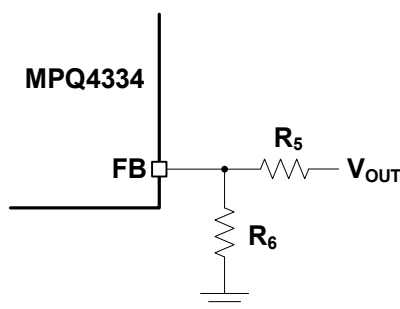

Figure 1: Feedback Divider Network with Adjustable Output
7. To use the enable (EN) function, apply a digital input to the EN pin. Pull EN above 1.02V to turn the regulator on; pull EN below 0.85V to turn it off. If the enable function is not used, EN can be connected directly to VIN.
9. Set the output voltage (V_{OUT}) using the external resistor divider (see Figure 1).